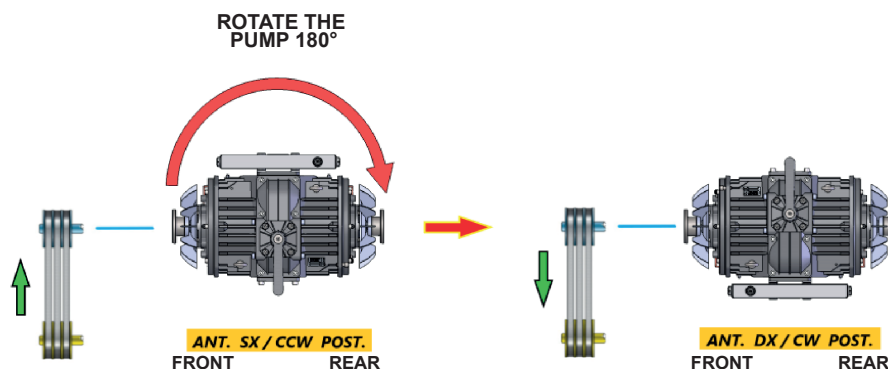

Fig. H.23 - Phase 0070
- Turn the vacuum pump 180° (see **Fig. H.23**).